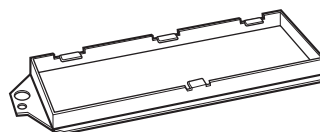

Figure 27
- ROOF-VENTED INSTALLATION:** Align the duct connector with the vent on top of the microwave oven. Damper should be on top of tab. Use two tapping screws (bright-colored) to attach duct connector to the microwave oven. See Figure 27, 28.